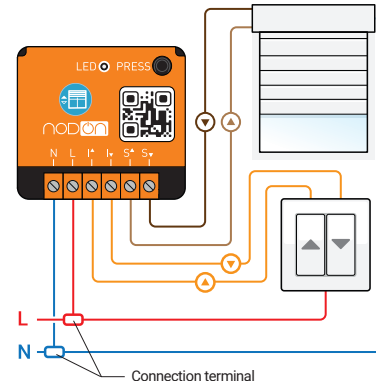

figure 1
- 3 Wire the module according to the diagram figure 1.